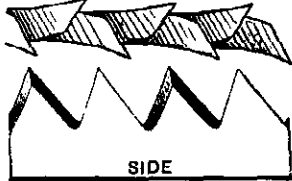
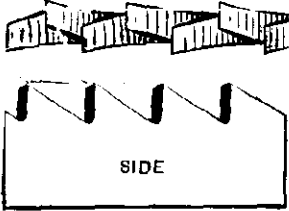
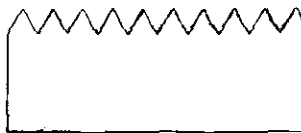

Fig. 2
Fig. 3
Fig. 5
After "jointing" all teeth must be filed to conform in outline to the shape as shown in Figure 5, for a cross cut saw or Figure 3 (side view) for a rip saw.
B. If the teeth are of uniform size and correct shape as shown in Figure 2 and Figure 3, operations 2 and 3 will be omitted. Proceed with operation 4 "Setting" and 5 "Filing."
Figure 2 illustrates the bevel obtained in correctly sharpening a cross cut saw. Figure 3 shows a correctly sharpened rip saw.